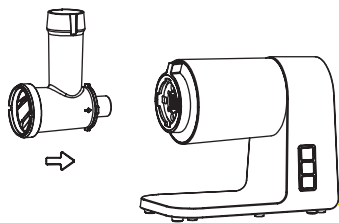
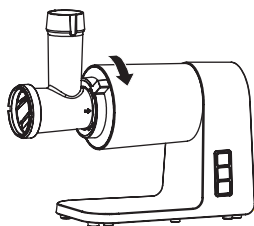

Figure 1.
Figure 2.
1. Hold the grinding head and insert it into the head inlet. Line up the slots on the head inlet with the notches on the head (fig. 1). Once inserted, press the lock in a clockwise direction to fasten the head (fig. 2).